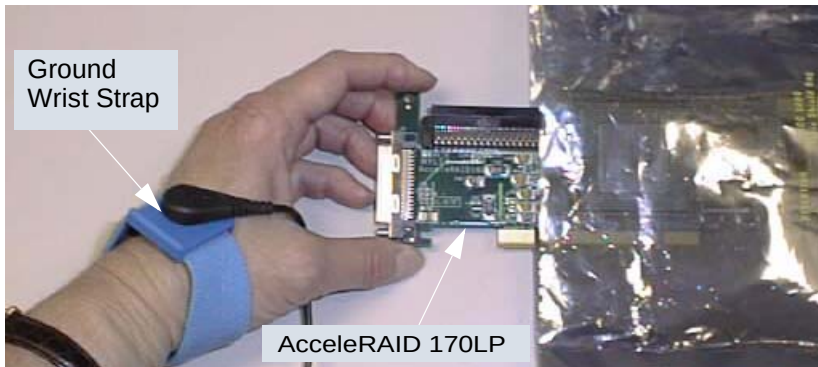

Figure 2-6. Remove the Controller from the Anti-static Bag
3. Remove the AcceleRAID 170LP controller from the anti-static bag, by holding it at the edges, as shown in Figure 2-6.